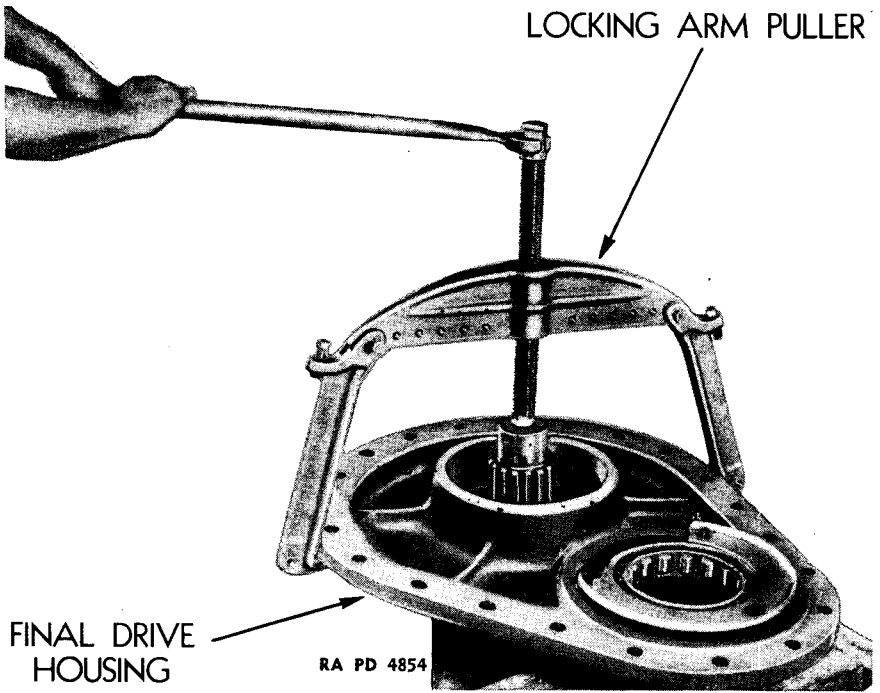

FIGURE 51 — REMOVING FINAL DRIVE SHAFT
(6) Remove cover or housing from drive shaft and bearing (figs. 51 and 52). Stand assembly on sprocket studs, supporting it with wood blocks or something similar. Install puller with fingers under edge of cover, and center screw on end of drive shaft. End of screw should be lubricated with white lead to prevent marring shaft. Be sure to keep puller in line with shaft to prevent binding. Pull cover with bearing until bearing is freed from its seat on shaft, remove puller and lift cover off shaft.